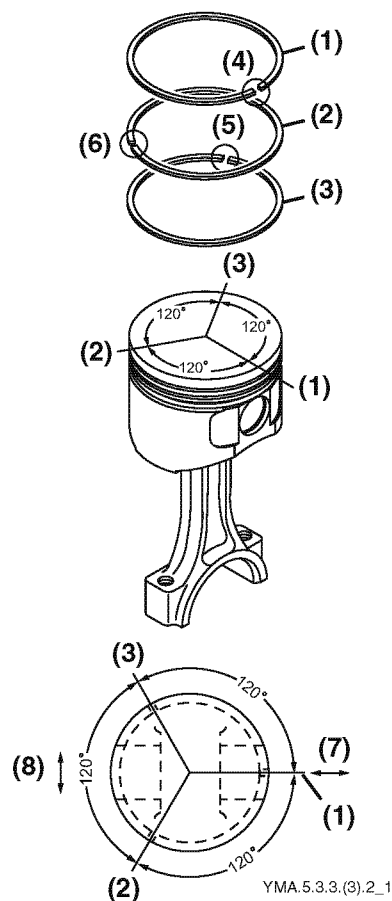

Figure 5-53
4. Stagger the piston ring gaps at 120° intervals (Figure 5-53). Make sure none of the ring gaps (Figure 5-53, (4), (5) and (6)) line up with each other on the piston.